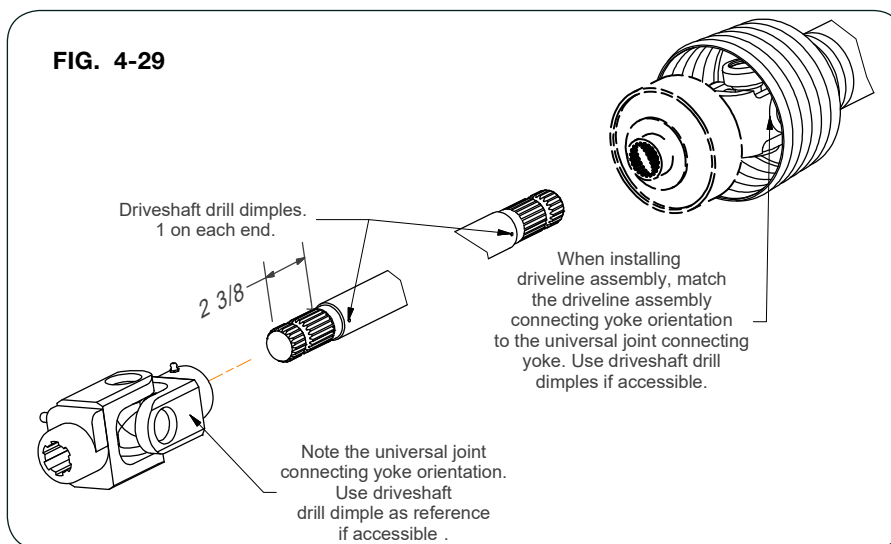

FIG. 4-29
19. Slide driveshaft down into the universal joint attached to the gearbox until the end of the shaft extends into the universal joint 2 3/8". Ensure universal joint and driveshaft splines completely engage. Verify the hitch end for adequate length for driveline assembly to connect. (FIG. 4-29)